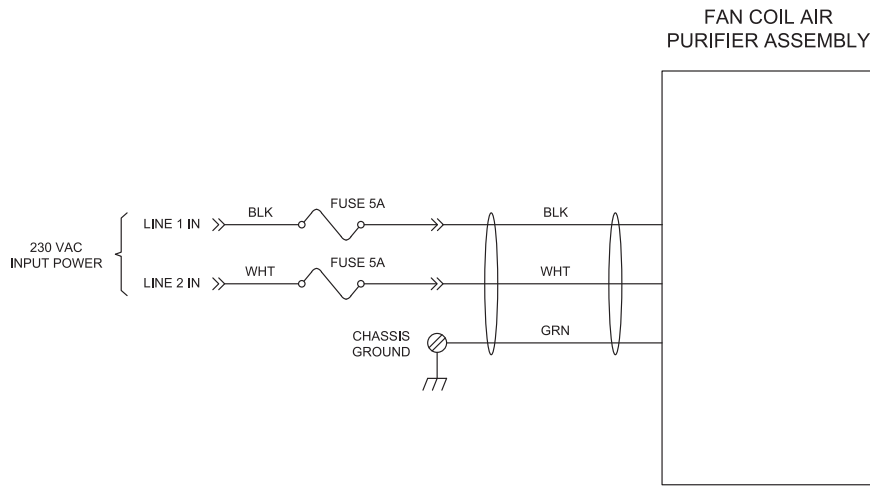

Fig. 13 - Fan Coil Schematic
2. Remove the yellow and black primary wires from the fan coil air handler transformer terminals and connect the quick connect “piggyback” terminals of the in-line fused leads exiting the air purifier power conduit assembly to the transformer terminals. Reconnect the yellow and black primary wires to their respective transformer terminals on the “piggyback” terminals. Attach the ground ring terminal on the third wire to fan coil air handler chassis ground. See Figures 13 and 14.